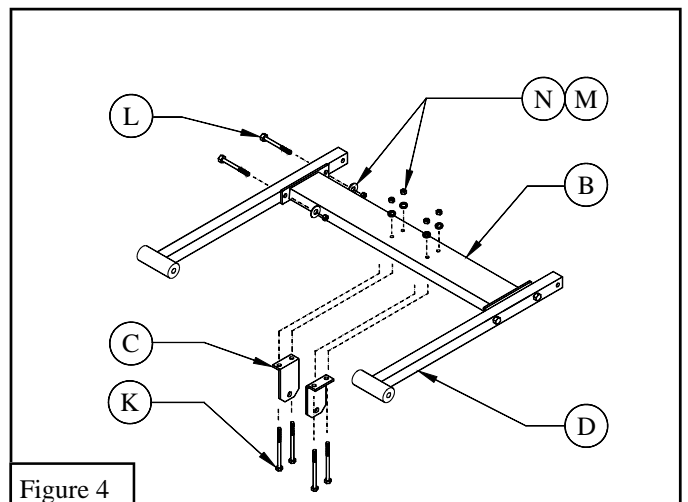

Figure 4
7. Attach the second *Crank Mount Strut* (B) to the two *Top Extension Tubes* (D) (The top extension tubes have the extra mount holes absent in the bottom extension tubes) with the $3/8$ " X $2\ 1/2$ " *Hex Bolts* (L), $3/8$ " *Lock Washers* (N) and $3/8$ " *Hex Nuts* (M). Install two *Crank Mount Brackets* (C) to the *Crank Mount Strut* (B) using the $3/8$ " X 3 " *Hex Bolts* (K), $3/8$ " *Lock Washers* (N) and $3/8$ " *Hex Nuts* (M). Tighten all hardware. See Figure 4.
8. Attach top extension tube assembly from instruction #7, figure 4 to the *Wall Mount Rails* (A) using the $1/2$ " X 3 " *Hex Bolts* (T) and $1/2$ " *Lock Nuts* (V). Attach both *Bottom Extension Tubes* (E) to the *Wall Mount Rails* (A) using the $1/2$ " X 3 " *Hex Bolts* (T) and $1/2$ " *Lock Nuts* (V). Tighten all hardware then loosen $1/4$ of a turn or until each assembly pivots freely up and down. See Figure 5.